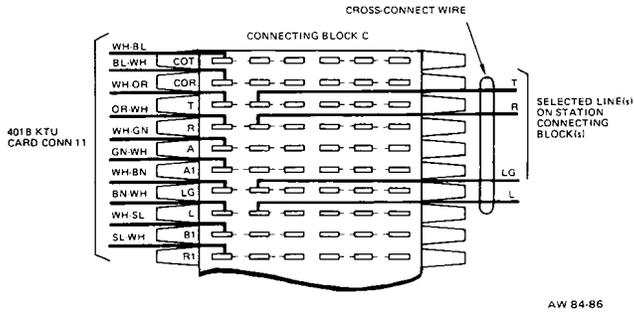

Figure 9: Connecting Details, Intercom KTU to Multibutton Station
- (b) On connecting block A, B, or C, locate the T, R, L, and LG terminals associated with the card connector for the 401B KTU. Cross-connect these terminals to the T, R, L, and LG terminals for the selected line key on the assigned station connecting block. If required, multiple the connections to the T, R, L, and LG terminals of the line pickup key(s) for any other assigned station(s). See Figure 9 for example.